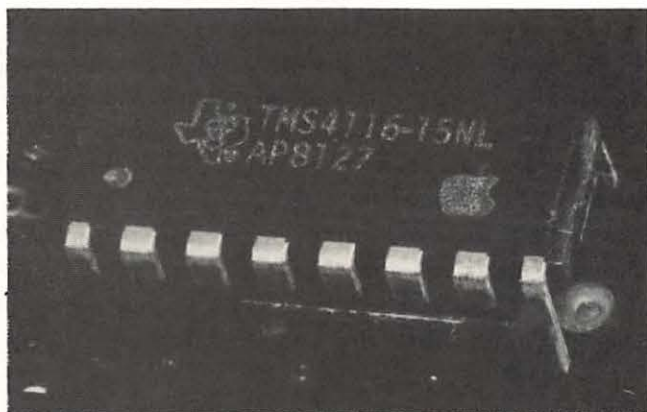

Fig. 1-16. Be careful you don't offset the chip by one pin.
- Don't offset the chip over the socket by one pin as shown in Fig. 1-16.